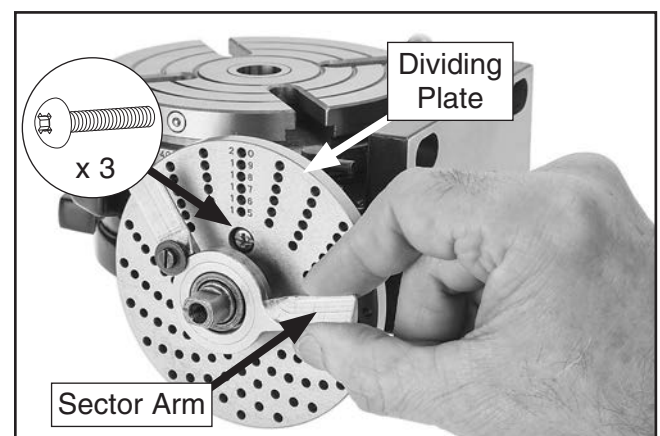

Figure 23. Installing dividing plate and placing sector arm assembly.
3. Insert dividing plate with counter bores facing out, and secure plate with (3) M5-.8 x 12 Phillips head screws, as shown in **Figure 23**.
4. Place sector arm assembly over the shaft, as shown in **Figure 23**.